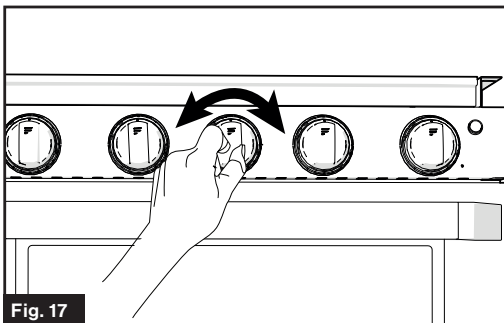

Fig. 17
4. Rotate the burner control knob to adjust the flame to desired level. (Fig. 17)